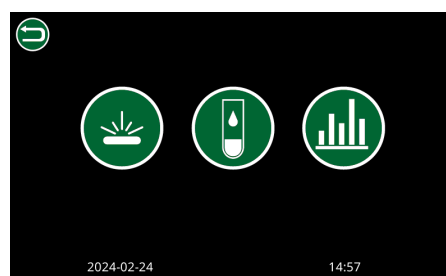

Figure 30. Quality control screen
1. Tap the Quality Control icon on the home screen. The QC screen will appear. See Figure 30.
2. Tap View Measurement History icon . See Figure 30.